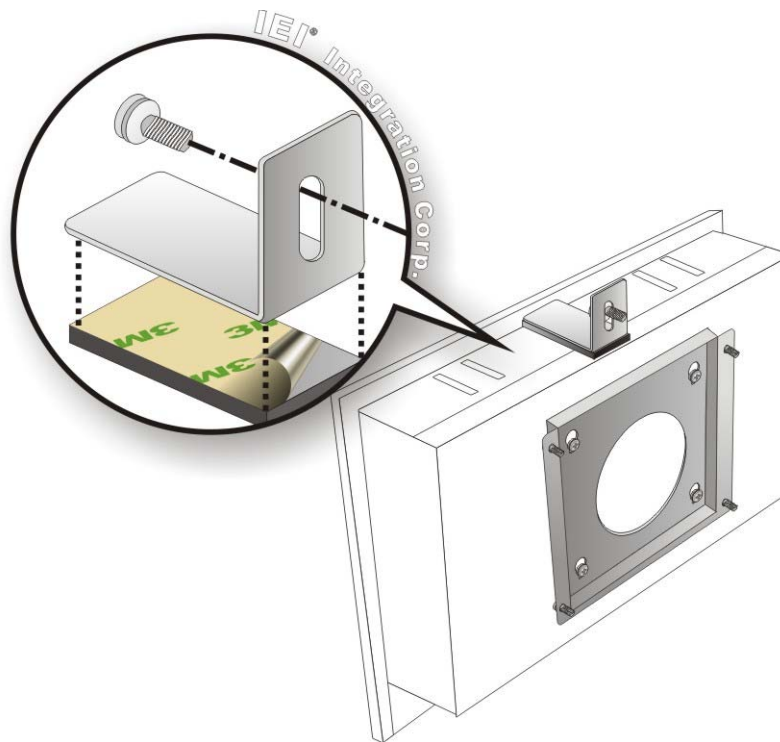

Figure 3-24: Secure the Chassis
Step 9: Secure the panel PC with the wall-mounting kit. To do this, stick the protective cushion to the wall-mounting kit first. Then, put the wall-mounting kit on the top panel of the panel PC. Carefully mark the location of the wall-mounting kit screw holes on the wall. Drill a pilot hole at the marked location on the wall. Secure the wall-mounting kit to the wall by inserting a retention screw into the pilot hole on the wall (**Figure 3-24**). This step is to avoid the panel PC being pushed apart from the wall-mounting bracket accidentally.